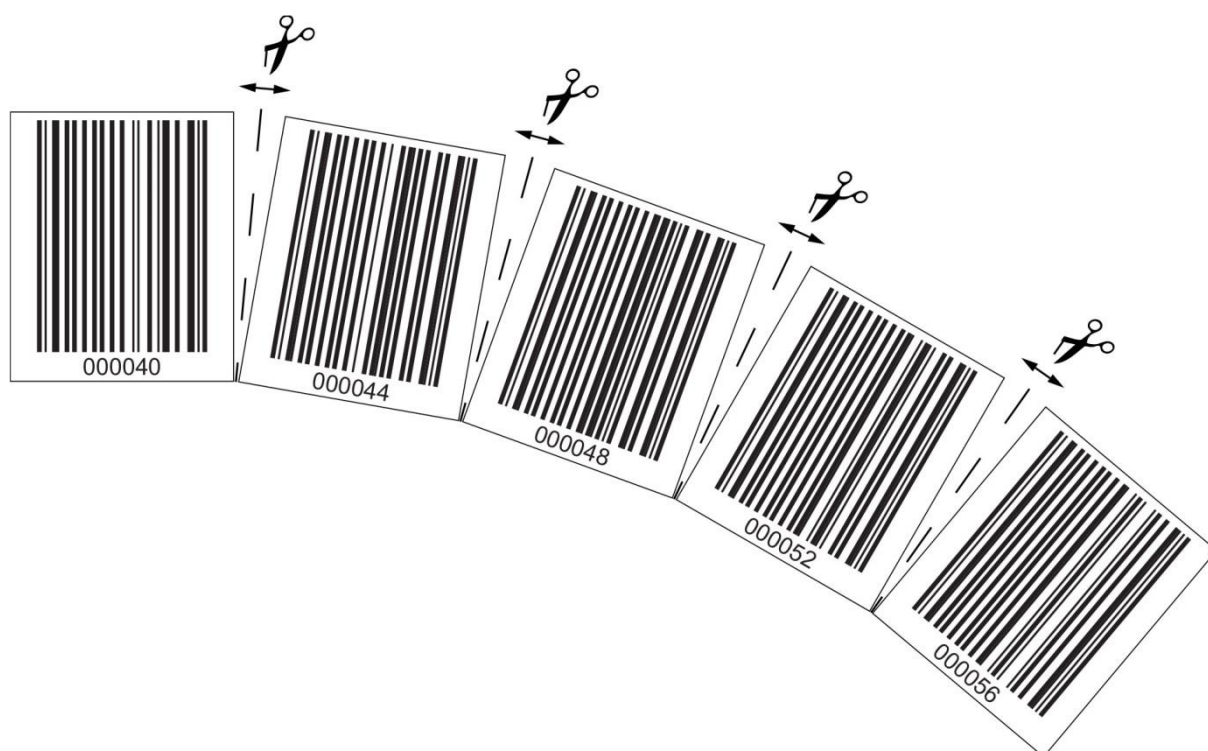

Figure 6.5: Preparing the barcode tape for use in vertical curves
- ↪ Affix the BCB along the curve like a fan (see Figure 6.5).